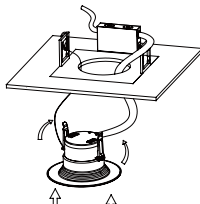

Fig. 5
- Step 5: Squeeze the two housing clips so they are in an upright position and insert lamp into housing ( Fig. 5).